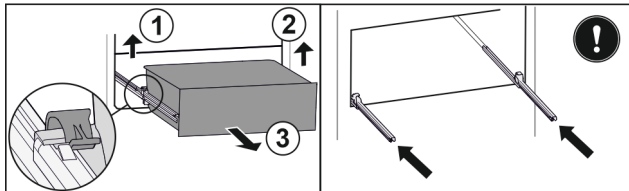

Fig. 61
- ▶ Lift left clamp and simultaneously pull drawer forwards on the left. Fig. 61 (1)
- ▶ Lift right clamp and simultaneously pull drawer forwards on the right. Fig. 61 (2)
- ▶ Remove drawer to the front. Fig. 61 (3)